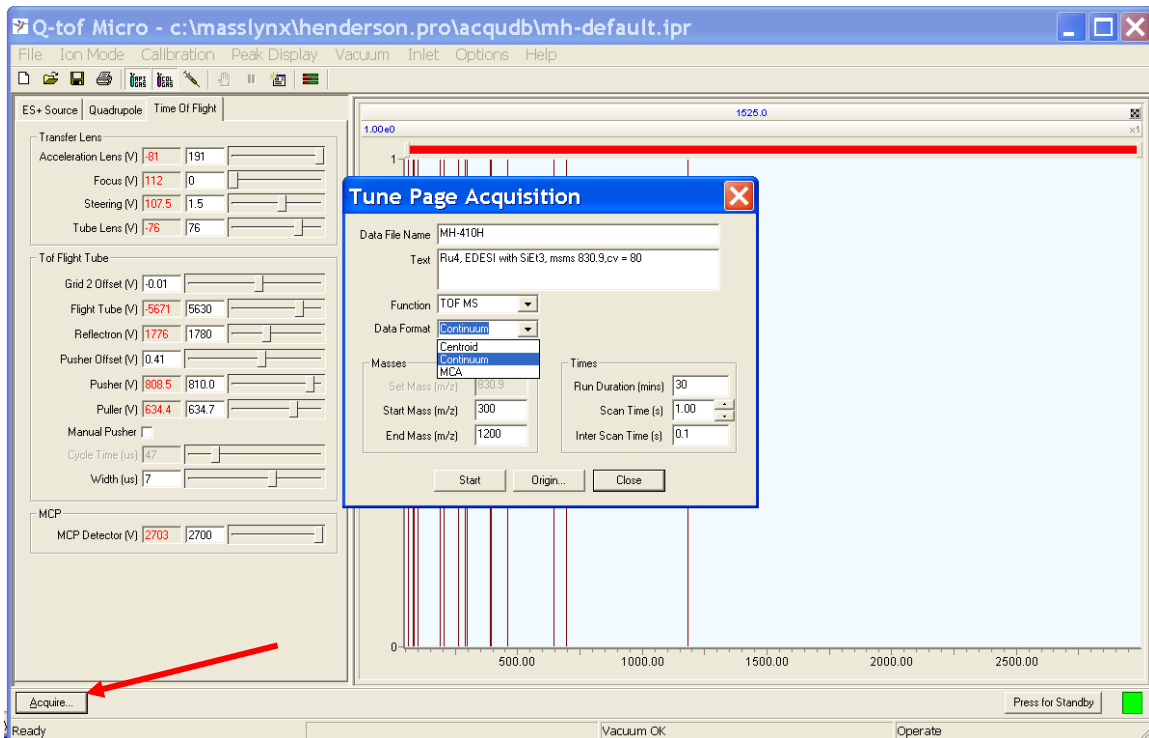

Figure 7
6. When you have begun injecting your sample, and have decided that you want to record the spectra that you are observing, click on “Acquire” in the lower left corner (Figure 7, red arrow). This gives the Tune Page Acquisition screen.